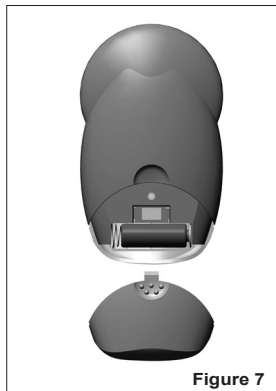

Figure 7
1. Install the included 12-Volt alkaline battery (A23 or equivalent) inside the handheld transmitter, after setting the jumpers to match the DIP switches in the receiver. Refer to Figure 7.